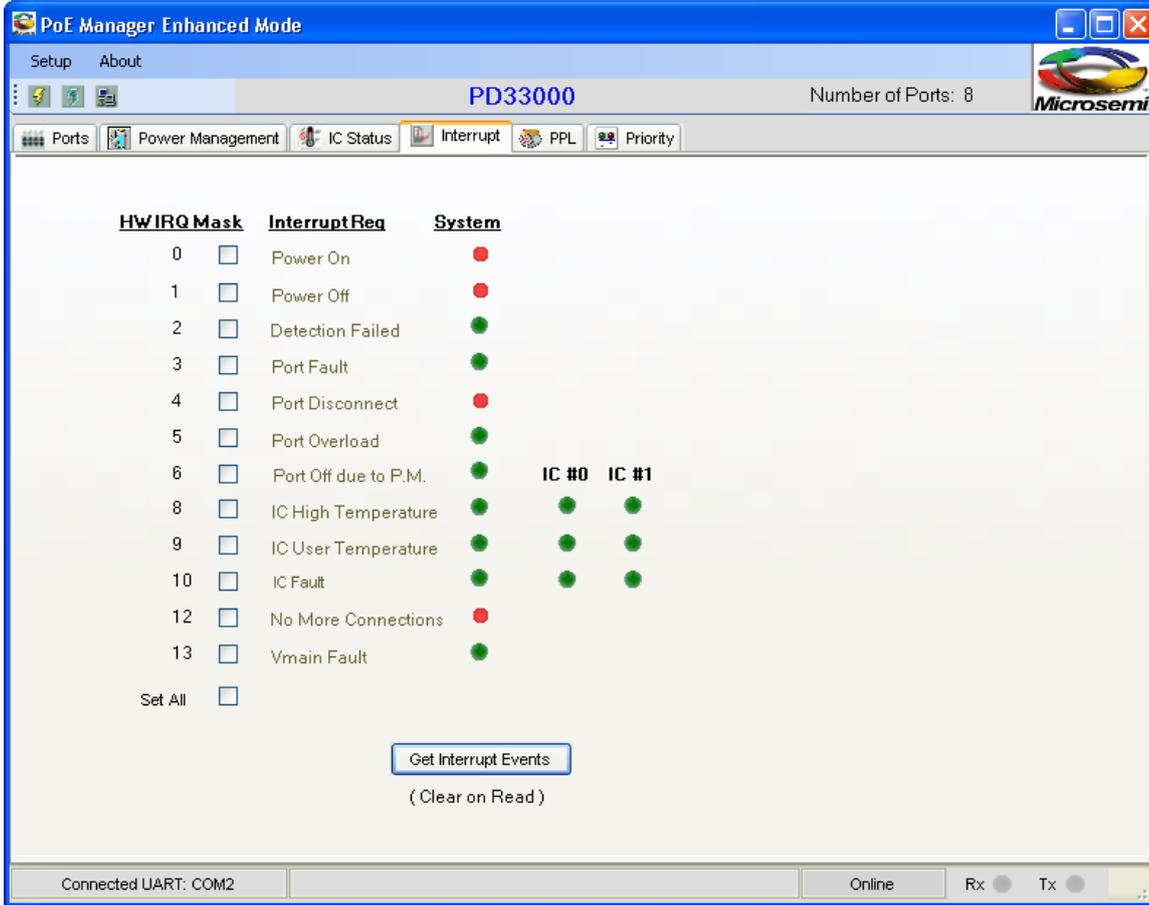

Figure 6-3: PoE+ PoE Manager Enhanced Mode Window, Interrupt Tab (PoE+)
- On the PoE Manager Enhanced Mode window, click the **Interrupt tab**. The following screen appears (Figure 6-3):